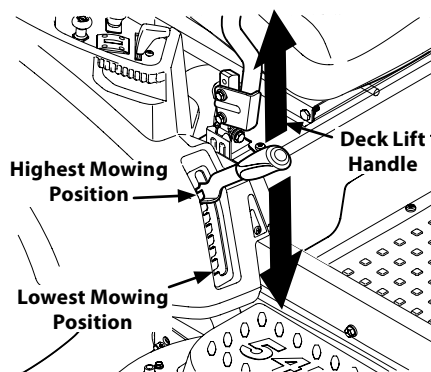

Figure 4-14
- Using the deck lift handle, raise the deck to the position that provides the most horizontal run of the belt between the deck idler pulleys and the PTO pulley on the bottom of the engine. See Figure 4-14.
- Lower the deck into the lowest mowing position using the deck lift handle. See Figure 4-14.
- e. Lower the deck into the lowest mowing position using the deck lift handle. See Figure 4-14.
11. Place the deck lift handle into the highest mowing position and slide the deck out from beneath the tractor. See Figure 4-14.
1. Place the deck lift handle in the highest mowing position. See Figure 4-14.